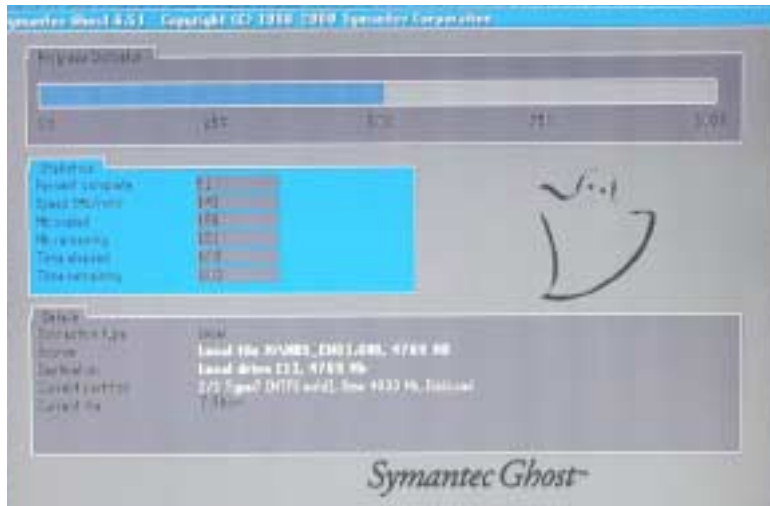

Figure 15-22 Image Transfer Window
7. At, click on *OK* button to open “Image Transfer” window (see Figure 15-22).